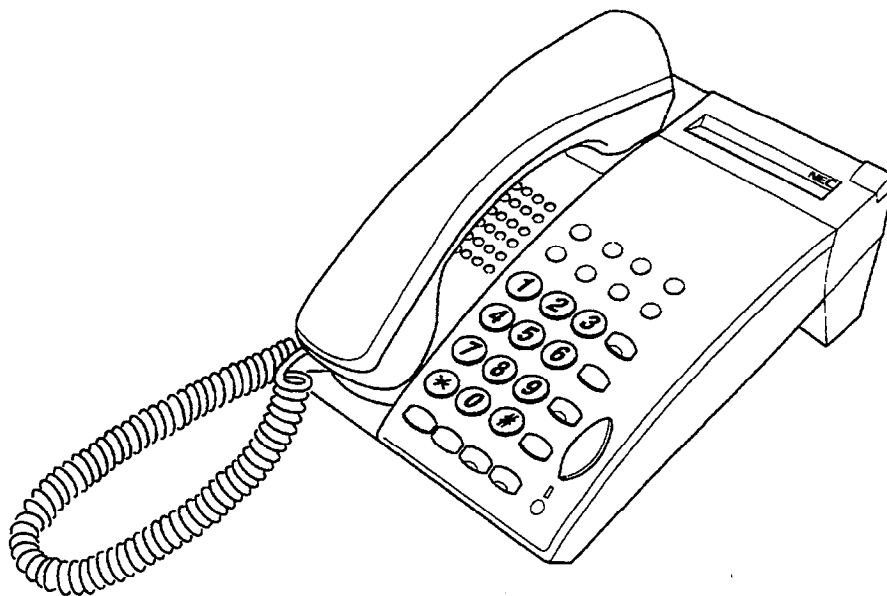

Figure 4-33 DTU-8-( ) (BK)/(WH) TEL
**5.1 DTU-8-( ) (BK)/(WH) TEL**
This non-display digital multiline terminal has eight programmable line keys (each with a two-color LED), built-in speakerphone, headset jack, a Large LED to indicate incoming calls and messages, and compatibility with the ADA-U, APR-U, and HFU-U Units. Refer to Figure 4-33 - DTU-8-( ) (BK)/(WH) TEL.